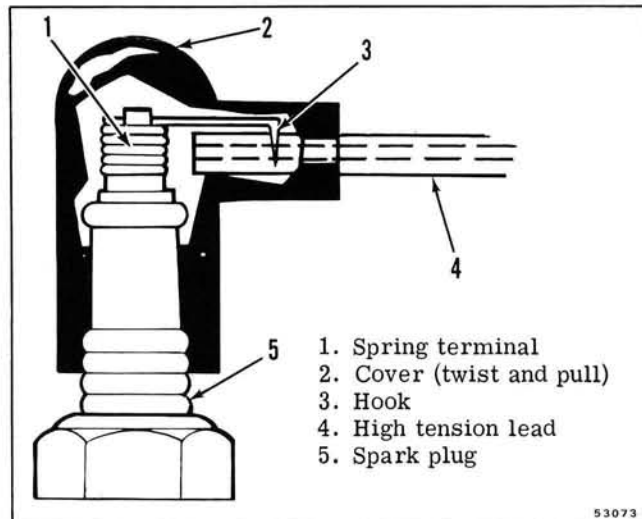

Figure 4-45. Spark Plug Cover and Terminal
b. Twist and pull on the cover to remove the high tension lead from the spark plug. See Figure 4-45.